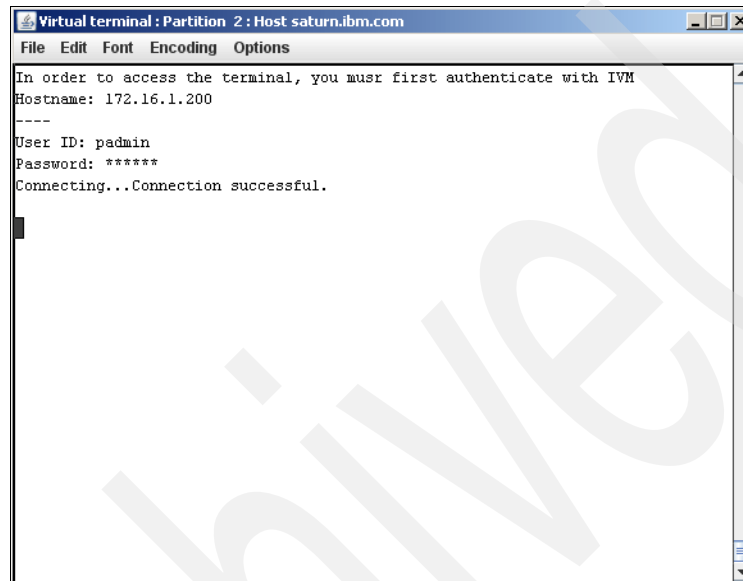

Figure 6-30 Virtual terminal connection
4. Authenticate on the Virtual IO Server to get the virtual terminal connected. You may use the account `padmin` with the default password `padmin` here if you have not yet created your own account. After the authentication is done, a message will be shown that the terminal has connected, as shown in Figure 6-30.